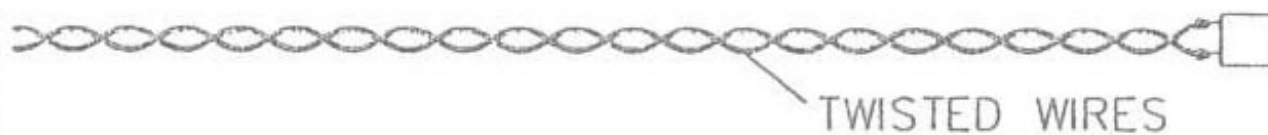

FIG.1.3
- Solder both copper wires to the sensor type KTY10, and twist the wires see Fig. 1.3 .